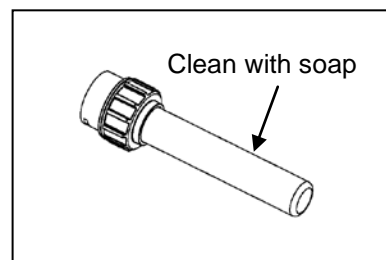

Fig. 15
9. Clean the exterior of the UV glass tube with warm soapy water. Fig. 15